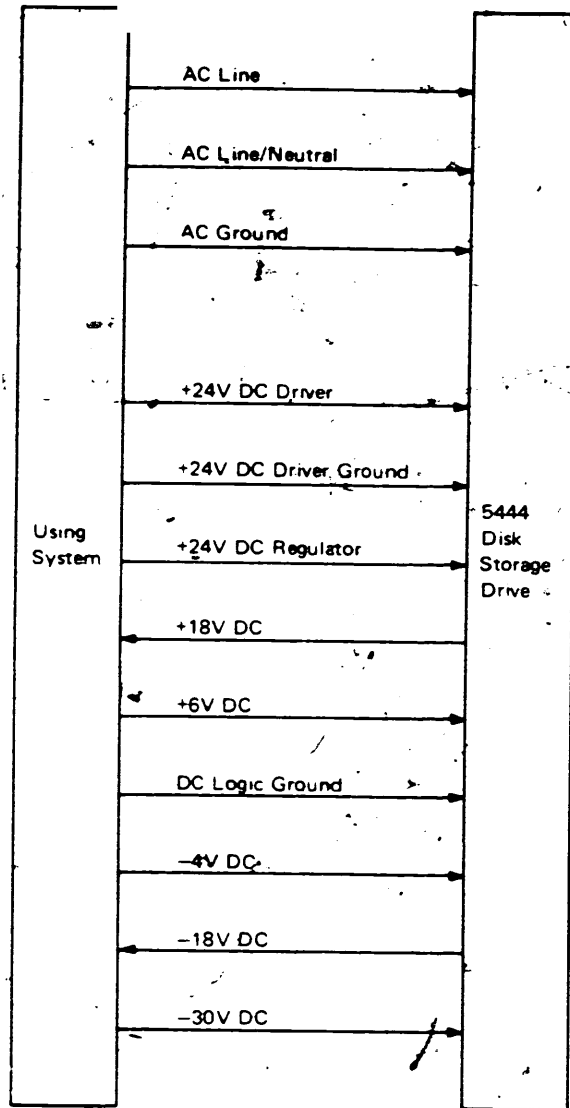

Figure 1-62. Input Power Lines [07523]
- The input power lines are shown in Figure 1-62. Fr. E18